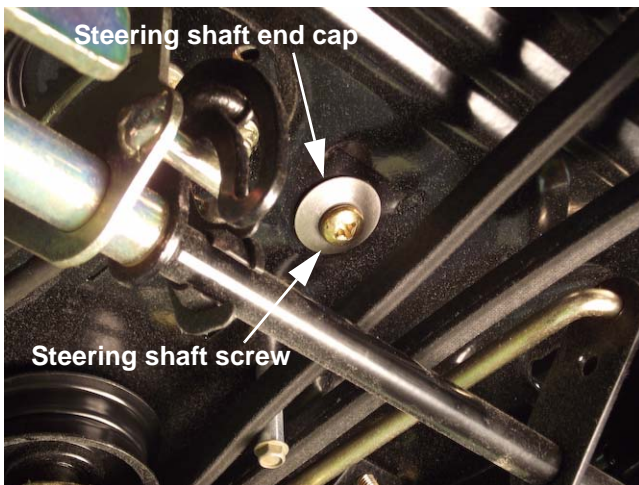

Figure 3.13
5. From underneath the rider use a #4 phillips driver to remove the screw and cap that fastens the steering shaft to the frame of the tractor. See Figure 3.13.